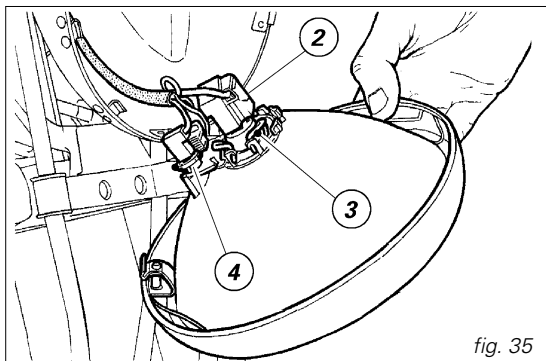

fig. 35
To gain access to headlamp bulbs, slacken the lower screw (1) holding the rim-reflector assembly to the body and disconnect the connector (2, fig. 35) from the headlamp. Release the clip (3, fig. 35) that secures the bulb and remove it from the socket.
To change the parking light bulb, withdraw the bulb holder (4, fig. 35). The bulb is of the bayonet-type: press and rotate anti-clockwise to remove. Fit the spare bulb by pressing and turning clockwise until it clicks. Fit the bulb holder again and assemble the rim-reflector assembly.